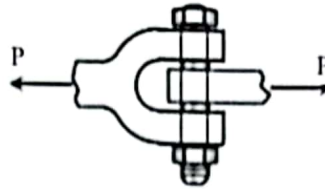

Fig. 3
3. a) Explain the following terms briefly: (12) 1
b) Find the smallest diameter bolt that can be used in the clevis as shown in Fig. 3, if  $P = 400 \text{ KN}$ . The shearing strength of the bolt is  $300 \text{ MPa}$ . (18) 1